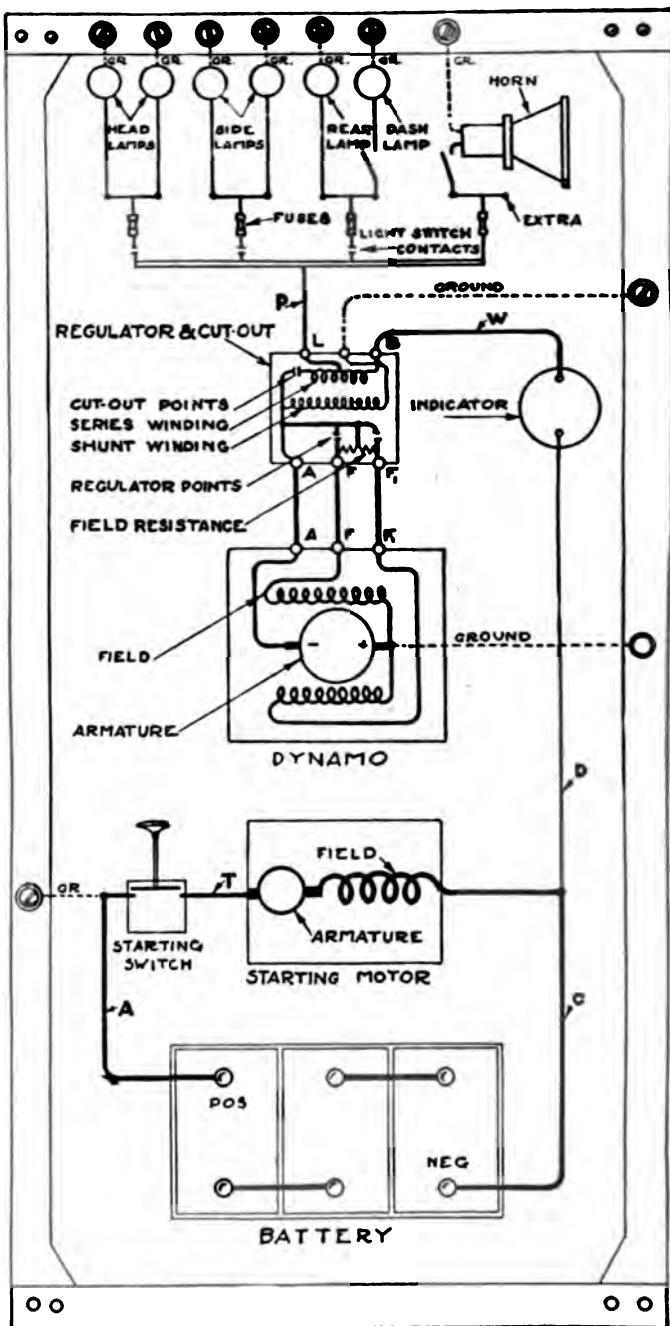

Fig. 287. Wiring Diagram for Gray & Davis Single-Wire System with Grounded Switch
**Grounded-Switch Arrangement.** Fig. 287 is the Gray & Davis wiring diagram of the grounded-switch type. The only difference between this and the other diagram is that the ground connection is taken from the terminal of the cable *A* to the switch instead of from the motor.